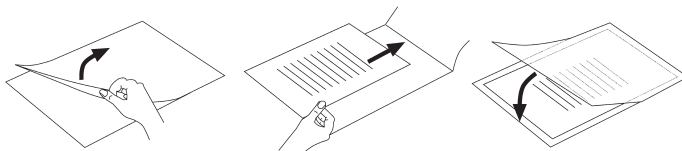

Fig. 2
- ▶ Ensure that you use only one pouch for laminating. First open it up, as shown in Fig. 2.
- ▶ Make certain that you use only one pouch for laminating. First flip it up, as shown in Fig. 2.